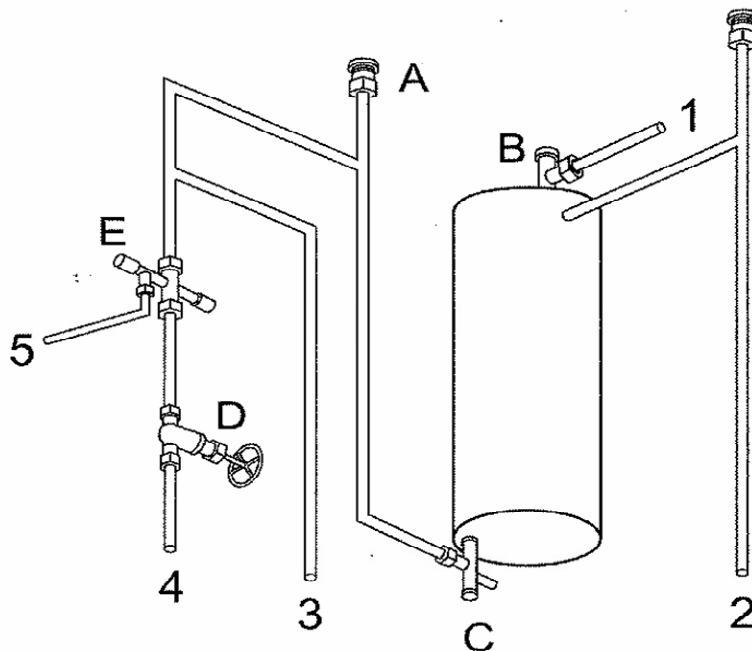

FIGURE 3
- 2.3 The drawing in FIGURE 3 shows a vertical high pressure geyser with components A – E and pipes 1 – 5.